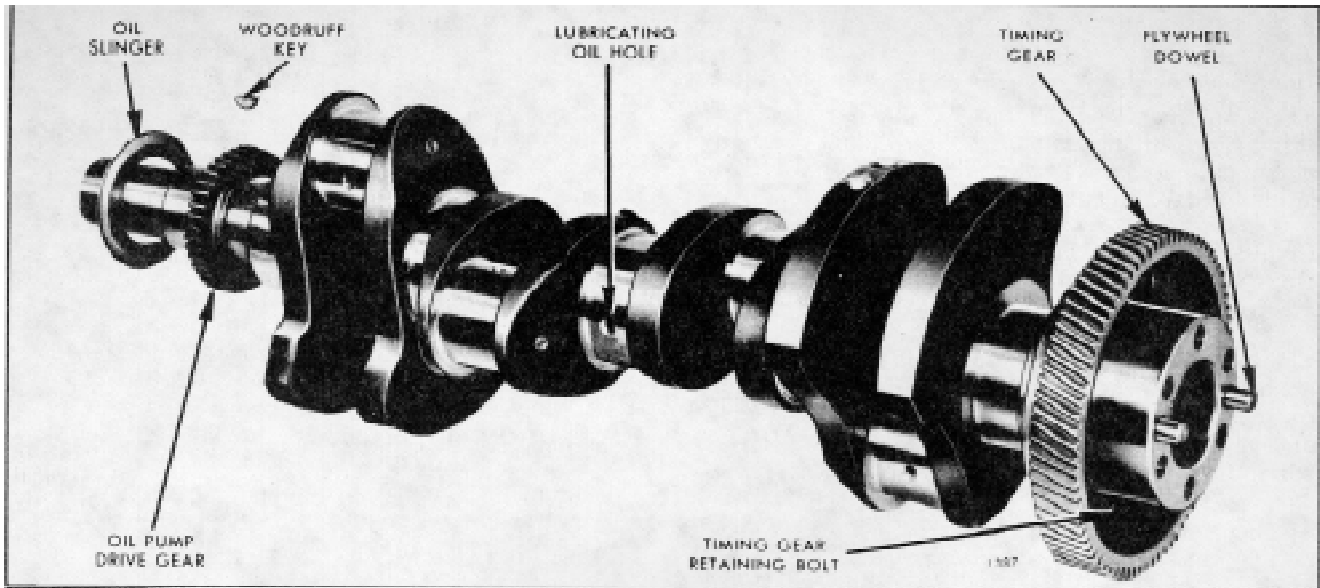

Fig. 2. Crankshaft, Timing Gear and Oil Pump Drive Gear Assembly - Four Cylinder Engine
Two dowels (Fig. 2) and six tapped holes are provided in the rear end of the crankshaft for locating and attaching the flywheel. One hole is unequally spaced so that the flywheel can be attached in only one position.
20. Remove the crankshaft, including the timing gear and oil pump drive gear (Fig. 2).